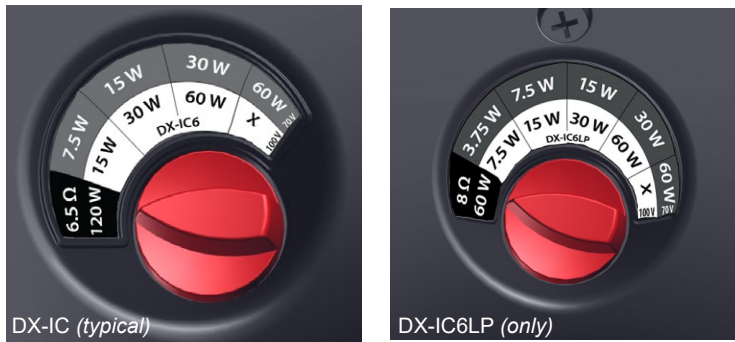

Figure 6. Set tap
13. Set tap switch by rotating knob to the desired setting. Both the DX-IC6 and DX-IC6LP are shown in Figure 6. The DX-IC6LP has 6 tap settings.